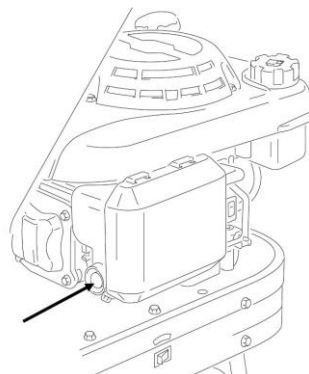

Fig. 5b
- Press the primer pump 2-3 times. Do not exceed 5 times in any situation. (Fig. 5b)